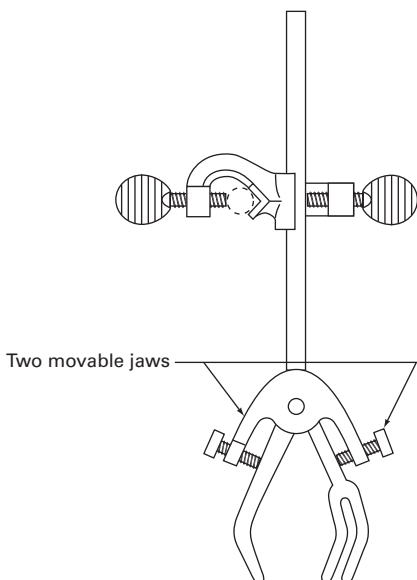

FIGURE 18.3 The three-fingered clamp with clamp fastener.
3. *The three-fingered extension clamp* (Fig. 18.3). This is truly the Cadillac of clamps, with a price to match. They usually try to confuse you with *two thumbscrews* to tighten, unlike the regular extension clamp. This gives a bit more flexibility, at the cost of a slightly more complicated way of setting up. You can make life simple by opening the *two-prong bottom jaw* to a 10° to 20° angle from the horizontal and treating that jaw as fixed. This will save a lot of wear and tear when you set equipment up, but you can *always move the bottom jaw* if you have to.